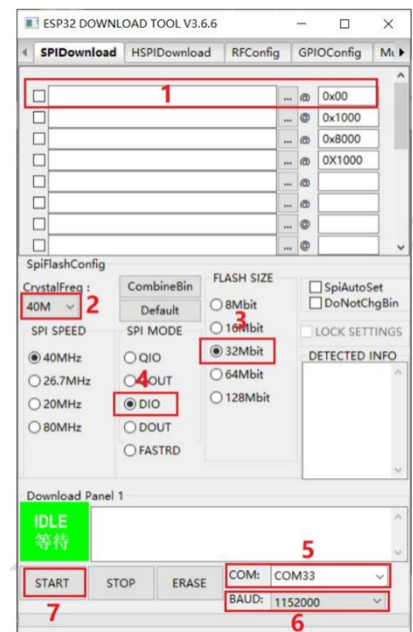

Fig.4
2. As shown in Fig.4: Select the firmware path at mark 1, and then fill in the burning address, usually 0X00. Note that this checkbox must be checked; Set the crystal frequency to be 40MHz at mark 2; Select 32Mbit for Flash size at mark 3; Select DIO for SPI MODE at mark 4; Select the COM port number recognized by the computer at mark 5; Select the baud rate at mark 6 (the higher the value is, the faster the firmware will be downloaded. Max. 1152000bps).